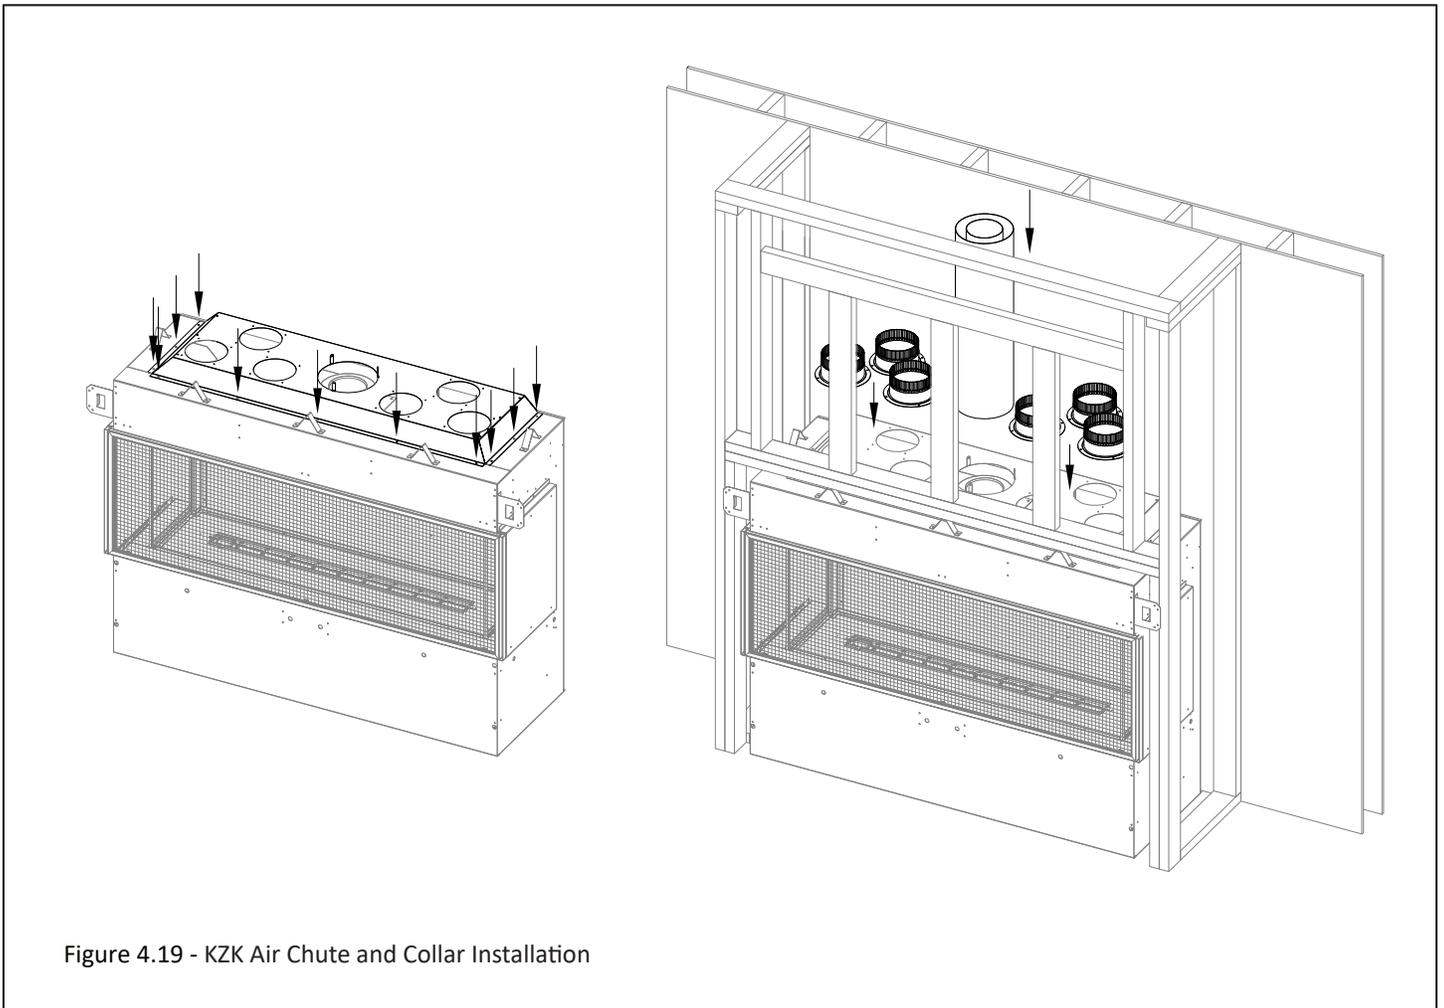

Figure 4.19 - KZK Air Chute and Collar Installation
Important: You must order a (1) G6020-ACH with your KZK-056 or KZK-1510 and KZK-610. The G6020-ACH attaches to the fireplace. See Figure 4.19.